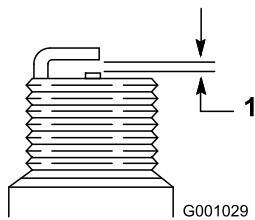

Figure 35
- Set the gap between the electrodes on a new spark plug at 0.030 inch (0.76 mm) (Figure 35).